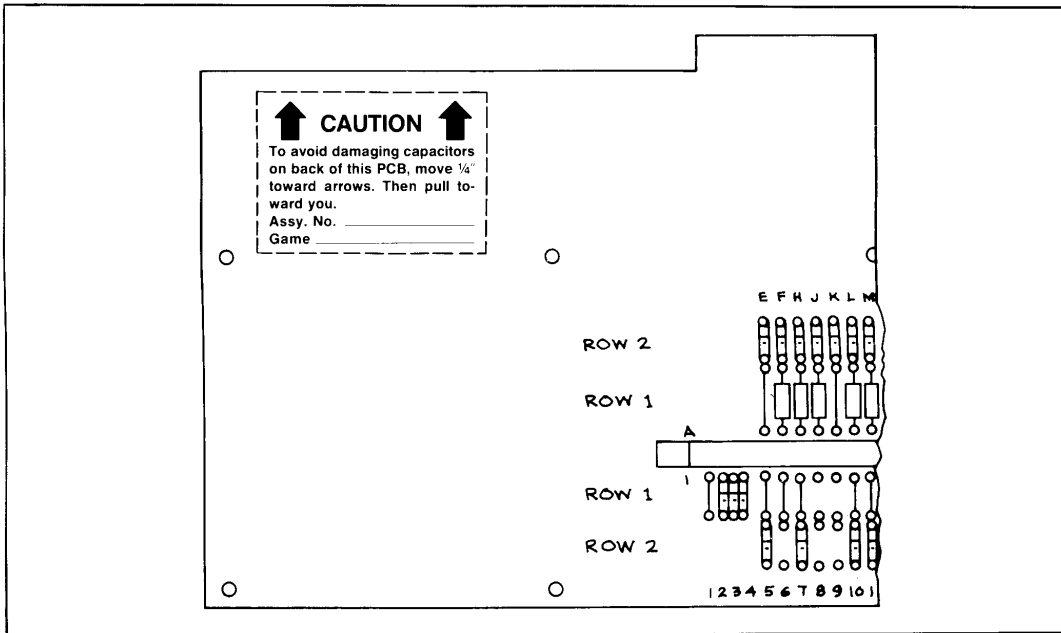

Figure 1-3 Caution Label on Game PCB
**IMPORTANT:** To prevent damage to the capacitors on the rear side of the PCB, move the board about ¼-inch towards the edge connector (same direction as the two arrows on the small white label). Then pull the RF board out toward yourself. Never yank the RF board straight off of the metal box. (See Figure 1-3 for caution label identification.)